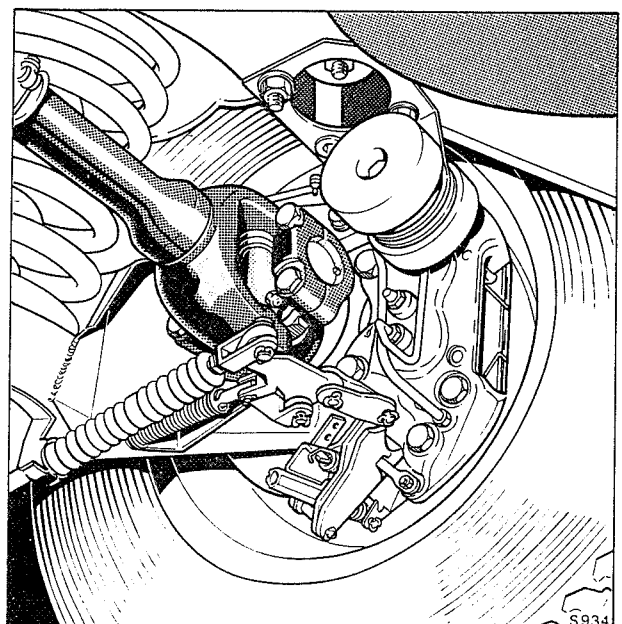

Fig. J13 Half-shaft outer universal joint
6. Remove the four setscrews and the two bearing caps from the outer universal joint (see Fig. J13). Ease the half-shaft inwards to disengage the universal joint from the hub yoke; care should be taken during removal to retain the needle roller bearing caps in position on the universal joint. Support the half-shaft to avoid excessive strain on the ball and trunnion joint seal; a convenient method of doing this is to support the half-shaft on a piece of cord looped around the final drive crossmember.